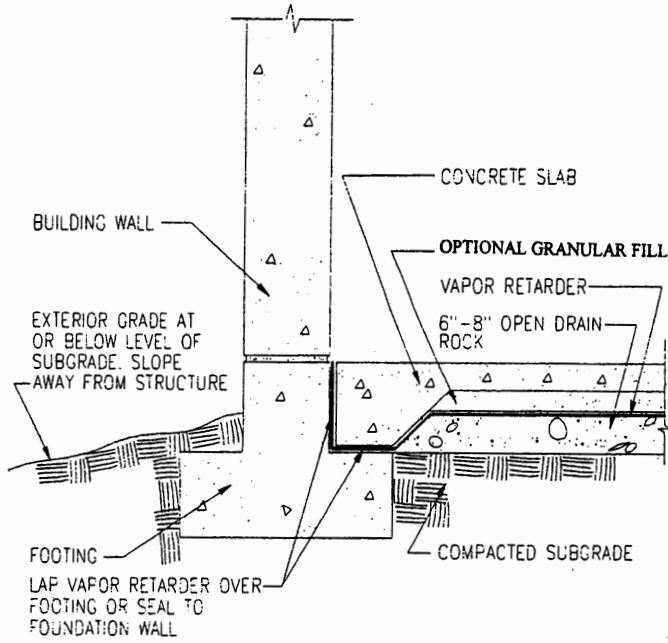

FIG. 1 Concrete Slab on Grade: Optimum Relationship of Vapor Retarder Components
5.3 Lap vapor retarder over footings or seal to foundation wall, or both, and seal around penetrations such as utilities and columns in order to create a monolithic membrane between the surface of the slab and moisture sources below the slab and at the slab perimeter (see Figs. 1, 2, 3).